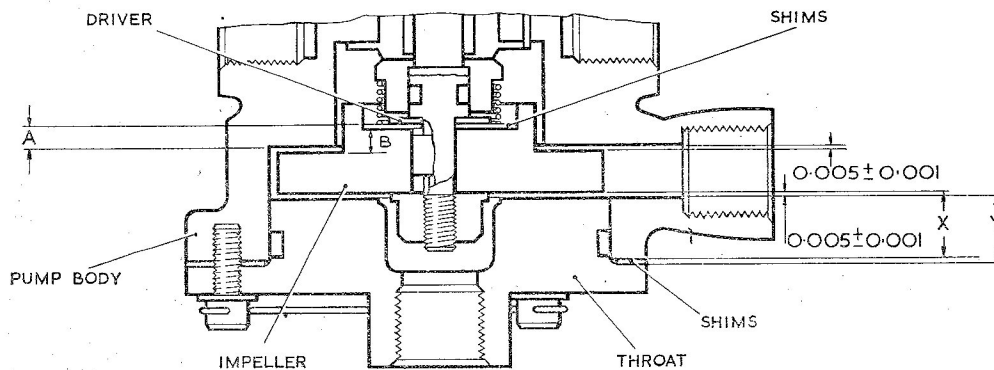

Fig. 4. Shim installation details
(2) Position the armature assembly in the pump body. Turn the brush plate until the cut out section is directly above the internal passageway for the leads and secure the assembly to the pump body with four screws.
(3) Slide the retaining ring and grommet down over the leads. Thread the leads into the aperture, and through the internal passage in the pump body. Insert the grommet in the aperture and secure it with the retaining ring. Connect the white lead to the negative brush holder and the black lead to the positive brush holder.
(4) Pack the bearing bore in the cover with grease XG275. Fit the loading spring washer, insulator and new packing in the cover. Fit the bearing to the armature shaft, mount the cover on the pump body and secure in position using four screws and plain washers.
(5) Bed the brushes and test the motor as detailed in para. 12-14.
(6) After testing wire lock the motor cover retaining screws.
(7) Support the motor assembly, with the pump body uppermost, between the padded jaws of a vice. Fit new packing to the stationary seal and fit the seal on the armature shaft engaging one of the cuts around the seal shoulder with the seal retaining pin. Fit new packing in the groove of the armature shaft. Fit the rotating seal over the packing and fit the driver.
(8) Calculate the shim thickness required to give a clearance of 0.004-0.006 in. between the impeller and the counter bore of the body (fig. 4). Impeller clearances are obtained with the armature shaft end play taken up toward the impeller end. To calculate the shim thickness proceed as follows:—
(b) Measure the distance from the exposed face of the driver, to the horizontal face of the body counter-bore (dimension A, fig. 4). Measure the distance between the parallel flat
faces of the impeller (dimension B, fig. 4). Subtract dimension B from dimension A and add 0.005 in. to the difference.
(9) Fit the spring over the rotating seal. Fit the required thickness of shims. Fit the impeller key in the armature shaft keyway. Fit the impeller and secure with a plain washer and self locking nut.
(10) Calculate the shim thickness required to provide a clearance of 0.004-0.006 in. between the impeller and throat (fig. 4). To calculate the shim thickness required proceed as follows:—
(a) Measure the distance from the lower face of the impeller to the bottom face of the pump body (dimension X, fig. 4).
(b) Measure the depth of the throat (dimension Y, fig. 4), subtract this dimension from that obtained in (a) and add 0.005 in. to the difference.